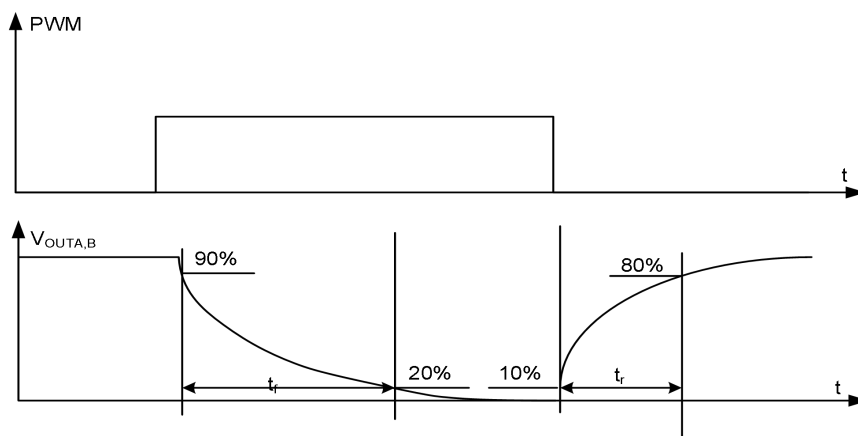

Figure 3. Definition of the low-side switching times
- (5) See Figure 3.
- (6) Guaranteed by design.